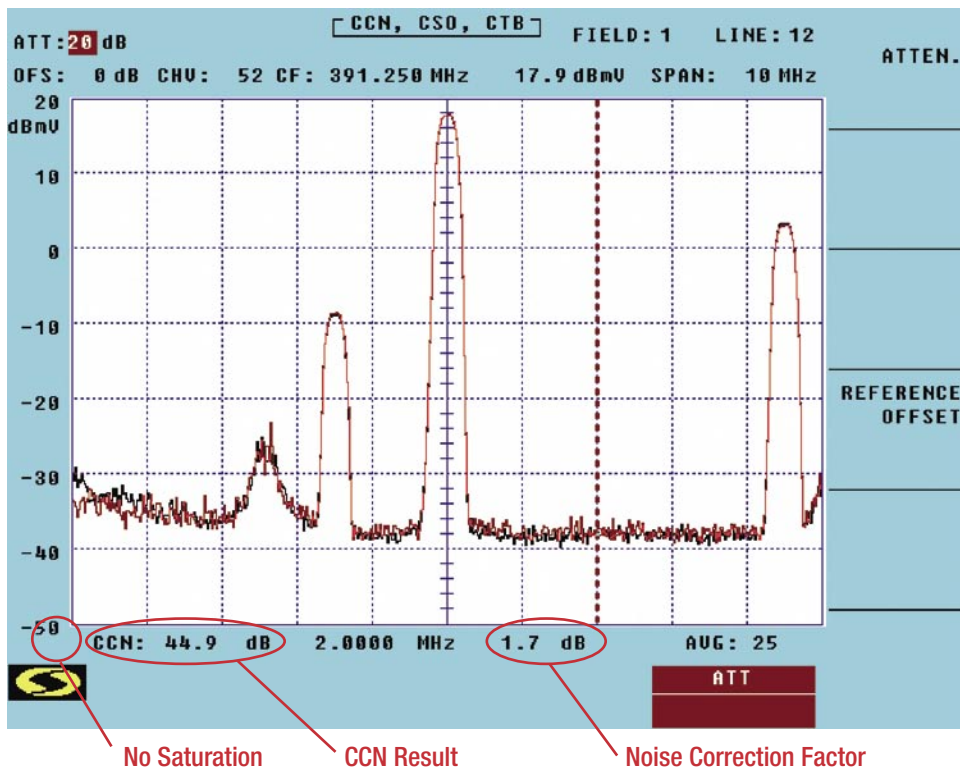

Figure 2
10. Press **enter** and the measurement will continue. The results are displayed on the bottom of the screen as shown in Figure 2. Notice also the noise correction factor. The lower this number, the better the accuracy of the measurement. A correction factor of 5 dB or more indicates inaccuracy. To reduce the correction factor set the video carrier higher in step 9.